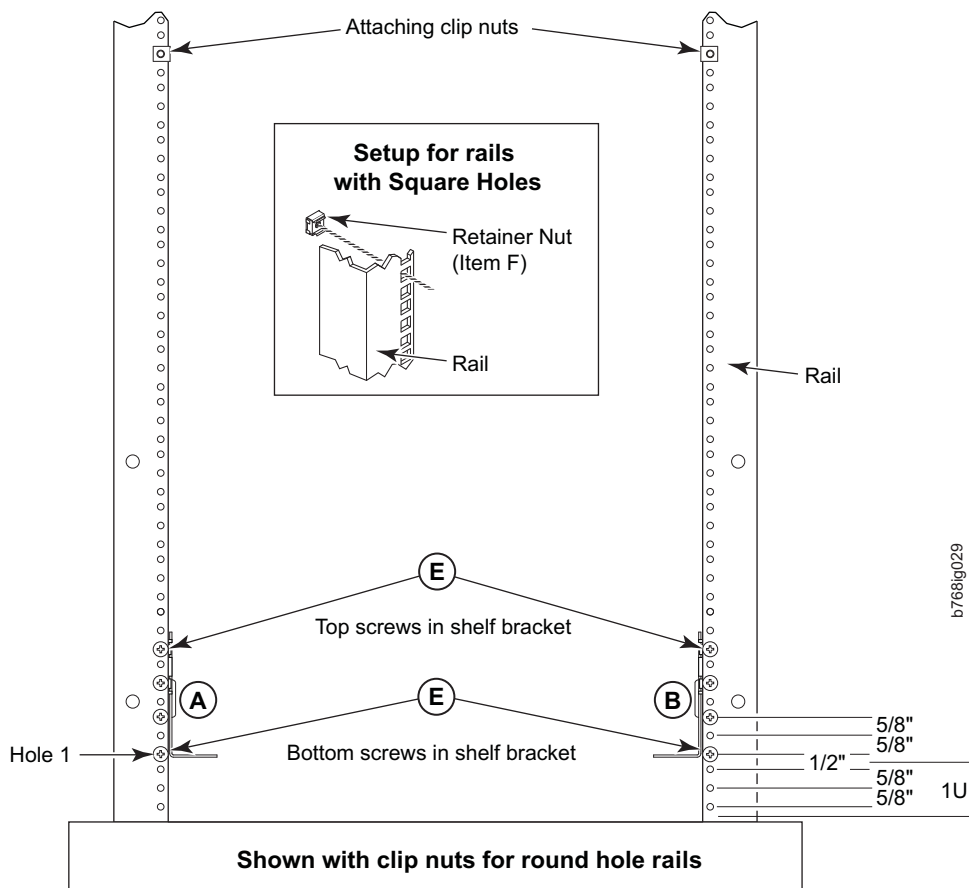
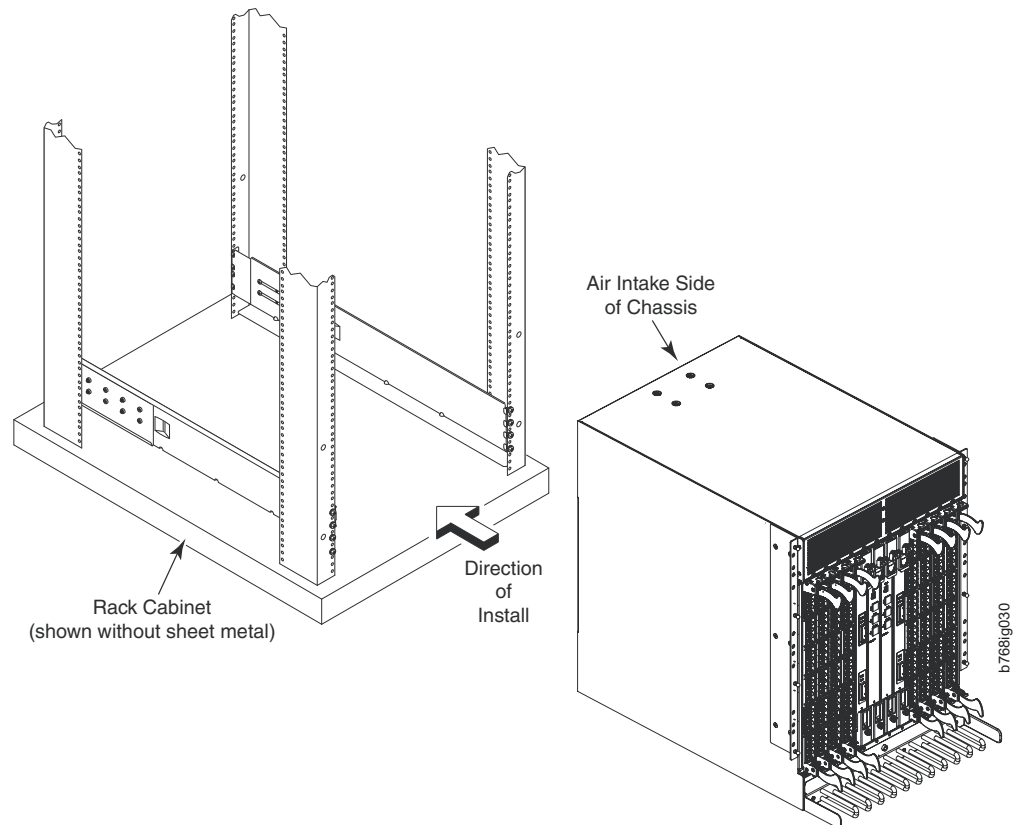

Figure 5. Installing clip or retainer nuts on the vertical cabinet rails
Figure 7. Chassis installation from rear (exhaust aisle side) of the cabinet
5. Attach the clip nuts **D** (for rails with round holes) or retainer nuts **F** (for rails with square holes) to the vertical rails on the exhaust aisle side of the cabinet (see Figure 5 on page 21). These nuts are used for securing the port side of the chassis to the rack rails using 10-32 x 5/8-inch screws. Use three nuts on each rail. Place the nuts in optimum locations for securing the chassis to the rails. See Figure 7 on page 23 for approximate positions.
7. Move the lift tool to a position near the rear of the cabinet. See Figure 7.